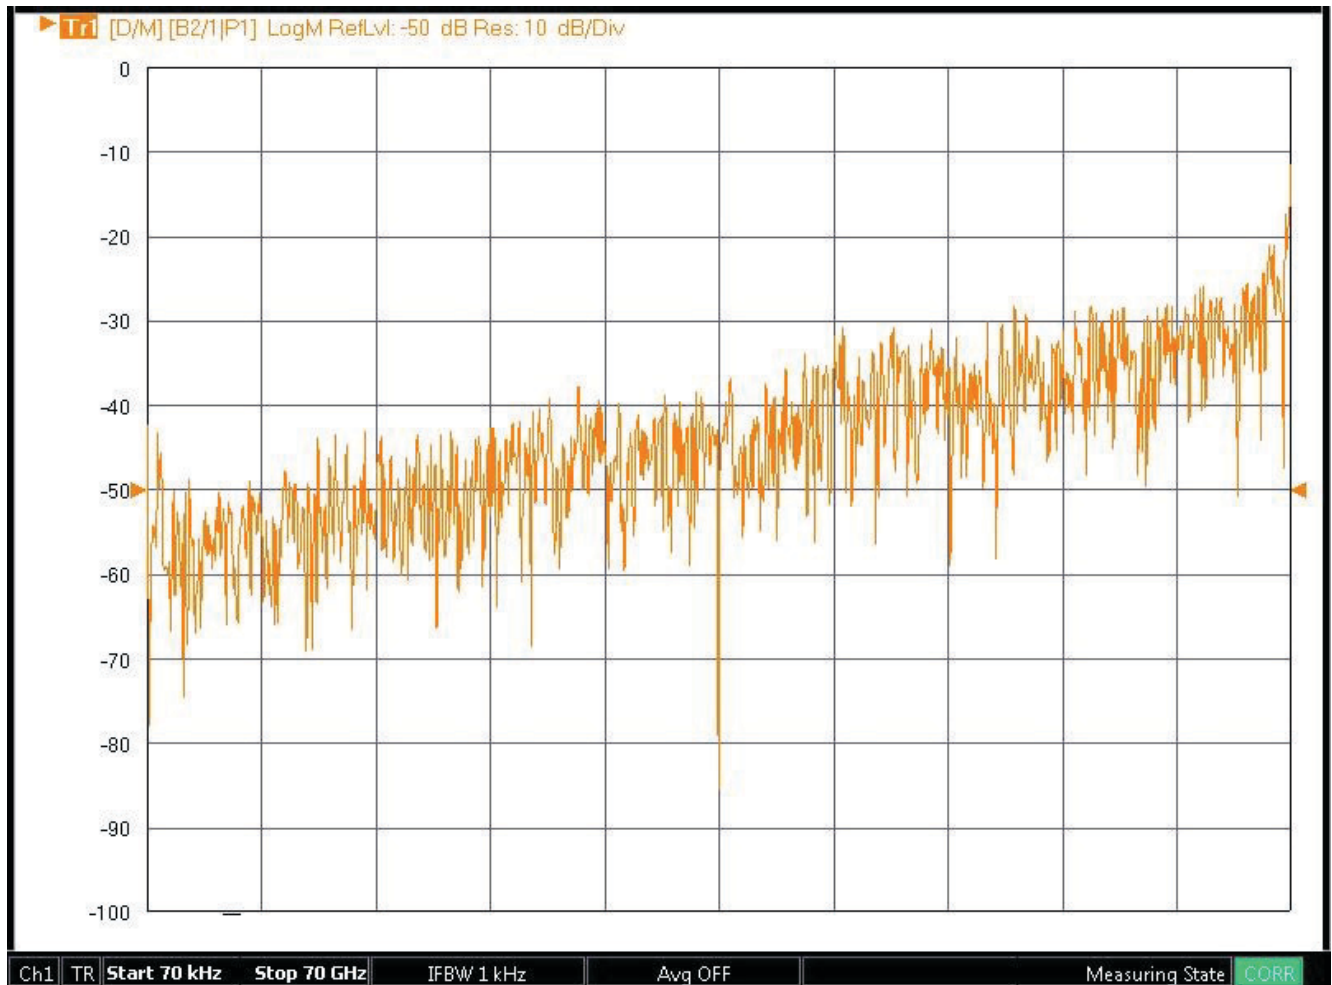

Figure 3-47. Typical Noise Floor Display—Reference Only
- a. Click on Reference Value and set it to -50 dB. The screen should look like Figure 3-47.